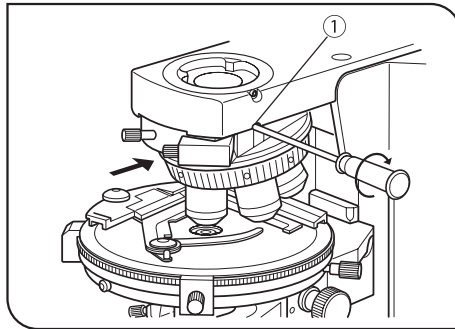

Fig. 5
**4 Mounting the Revolving Nosepiece (U-P4RE) (Fig. 5)**
2. Using the Allen screwdriver, loosen the nosepiece clamping screw ① on the microscope frame.